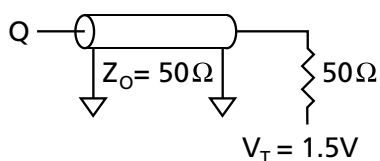
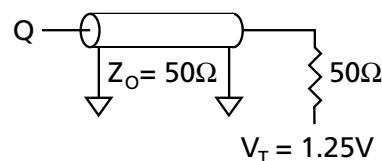

Figure 1
Figure 3
9. Test conditions as specified with output loading shown in Figure 1 for 3.3V I/O ($V_{DDQ} = +3.3\text{V} \pm 0.165\text{V}$) and Figure 3 for 2.5V I/O ($V_{DDQ} = +2.5\text{V} \pm 0.4\text{V} / -0.125\text{V}$).
Output load	See Figures 1 and 2
Output load	See Figures 3 and 4